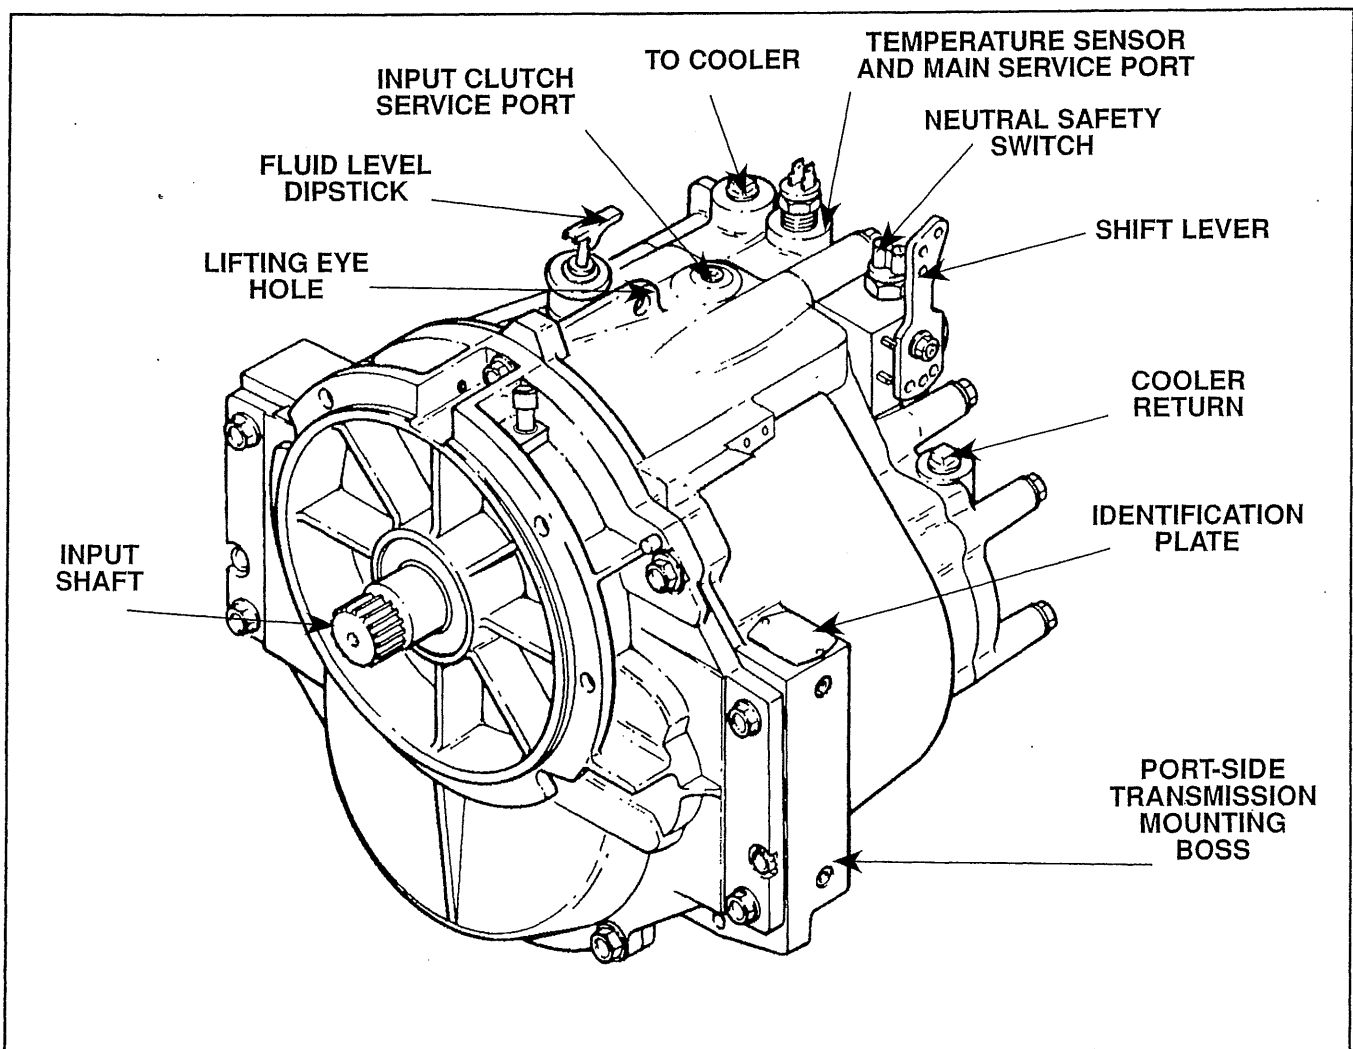

Figure 1-1. 5000 Series Marine Transmission
**1-2. PURPOSE.** This manual contains maintenance, service and parts information for the Series 5000 Velvet Drive® Marine Transmission (see figure 1-1).